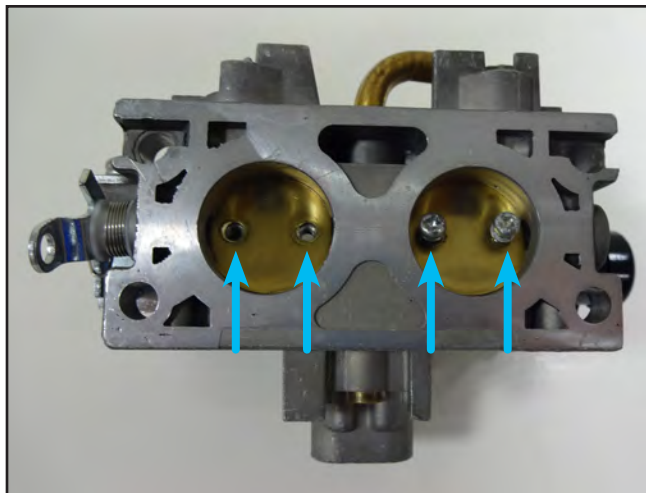

Figure 33
6. Install the throttle discs with the top of the disc inserted first, retain with four screw (Figure 33).